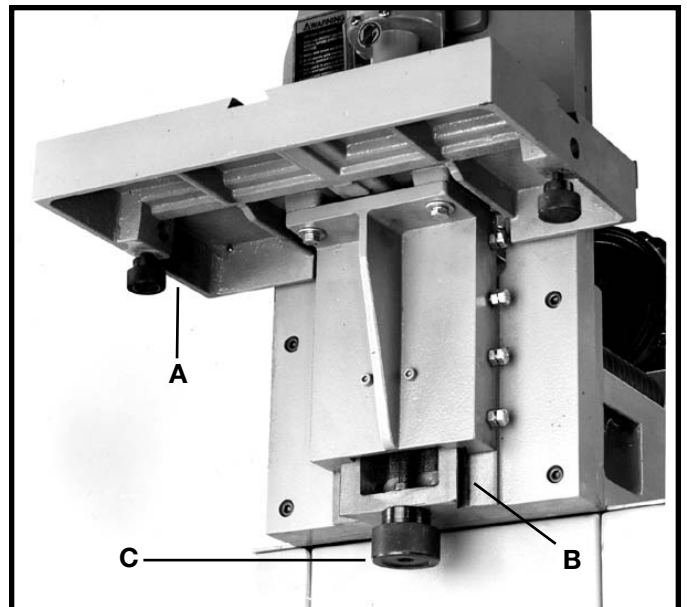

Fig. 31
The table (A) Fig. 31, moves on dovetailed ways (B) at the front of the machine.
1. To raise or lower table (A) Fig. 31, rotate knob (C).